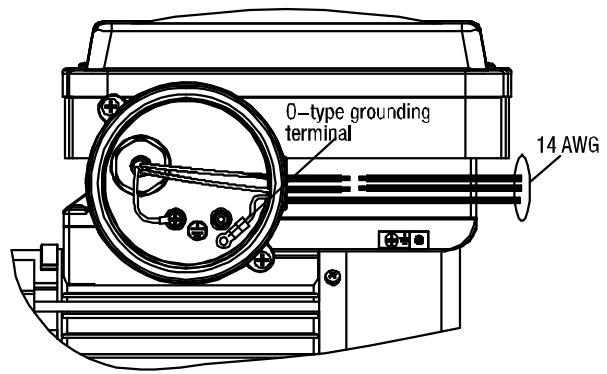

FIG. 2
- Using multi-function crimping pliers to press o-type grounding terminal which connected 14 AWG. (FIG.2)